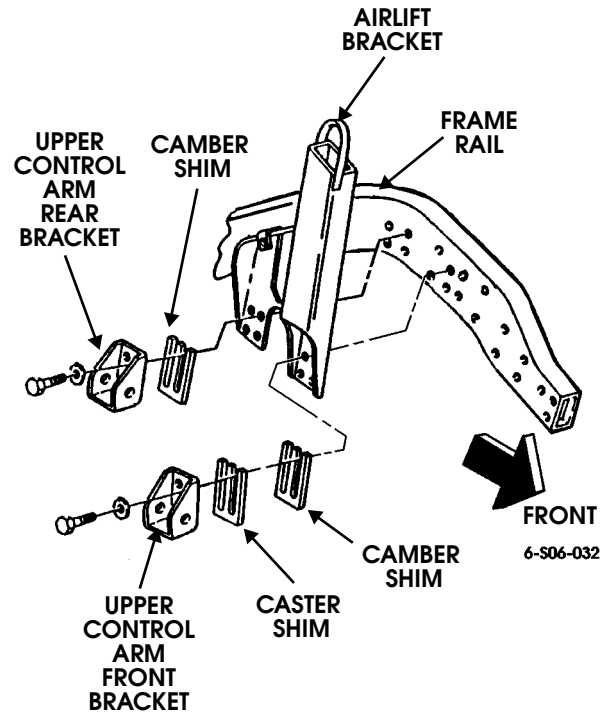

Figure 6-47: Caster Shim Location (Passenger Side Front Shown)
Caster adjustment applies to the front wheels only. It is controlled by a shim installed between the airlift bracket and upper control arm front bracket (Figure 6-47). A positive caster angle is required on all Hummer vehicles.
4. Adjust caster angle by changing shim thickness between control arm front bracket and airlift bracket (Figure 6-47):
4. Loosen bolts that attach upper control arm brackets to airlift bracket and frame (Figures 6-47 and 6-48). Do not remove the bolts; just loosen them.